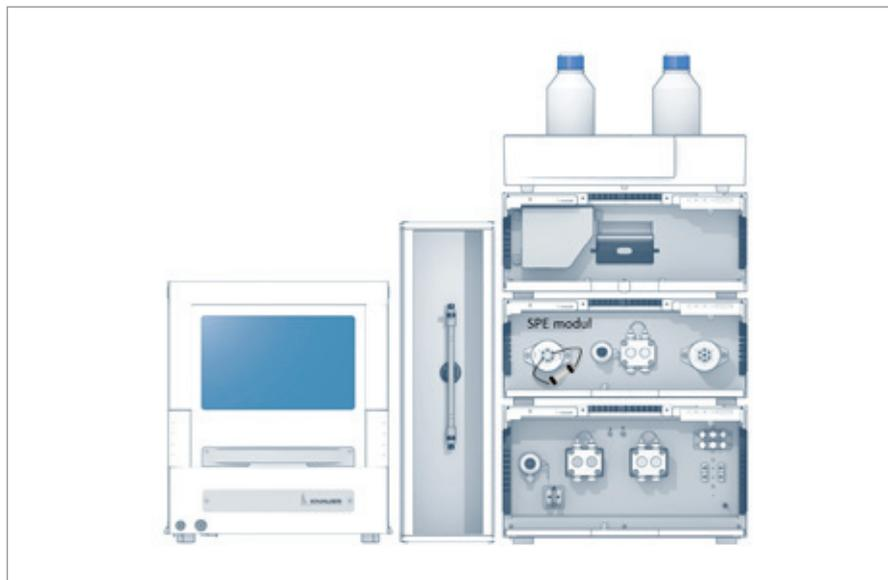

Figure 1. Schematic arrangement of the involved system components for the HPLC system coupled to online SPE extraction.
that can complement or replace photo diode array UV-Vis detectors in liquid chromatography (LC) systems. But for educational purposes, we have been using a quadrupole ESI-MS system as a standalone unit in a flow injection analysis set-up, which consists of an old isocratic LC pump and a manual injection valve with an inline filter between the injector and the MS (see Figure 1 and “Setup”).